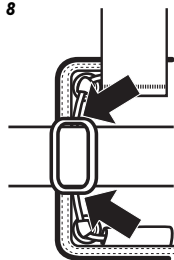

Figure 9
6. The ends of the cable should be placed under the buckle that attaches the weight carrier to the waist belt. The ends of the cable must never be knotted or tied in any way or the weights cannot be dropped. See Figure 9.